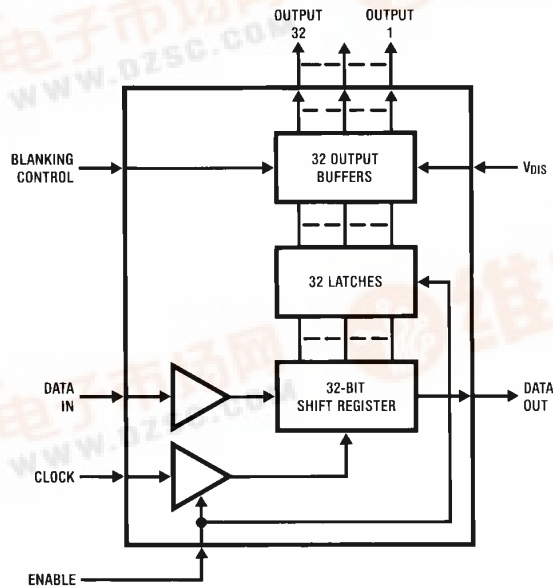

FIGURE 1
This product is specifically designed to drive multiplexed or non-multiplexed high voltage alphanumeric or dot matrix vacuum fluorescent (VF) displays. Character generation is done externally in the microprocessor, with a serial data path to the display driver. The MM58241 uses three signals, DATA IN, CLOCK and ENABLE, where ENABLE acts as an external load signal. Display blanking can be achieved by means of the BLANKING CONTROL input, and a logic '1' will turn off all sections of the display. A block diagram of the MM58241 is shown in *Figure 1*.